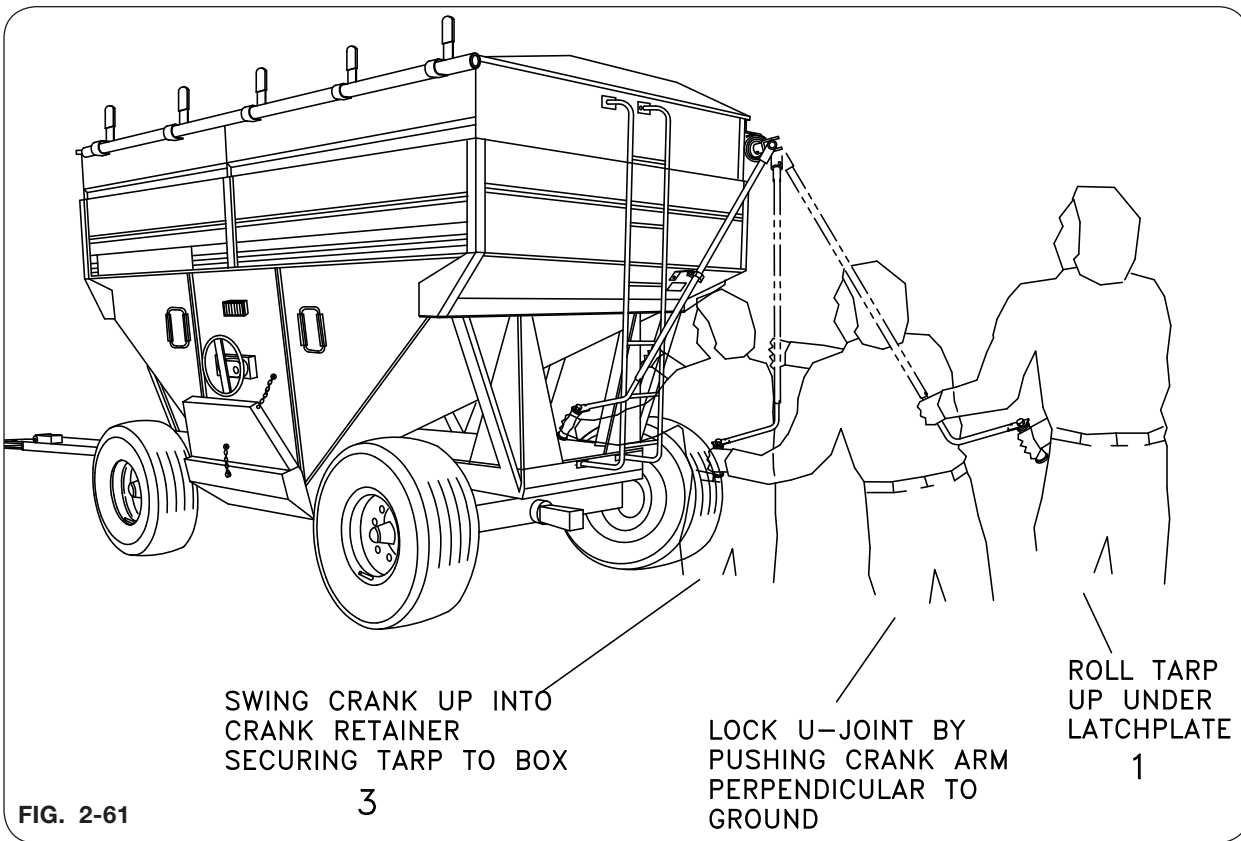

FIG. 2-61
16. Tighten tarp by holding the crank firmly with both hands and roll the main tarp tube counter-clockwise up under the latch plate. Next, bring the crank handle down perpendicular to the ground. Continue by lifting it up into the crank retainer. See Figure 2-61.